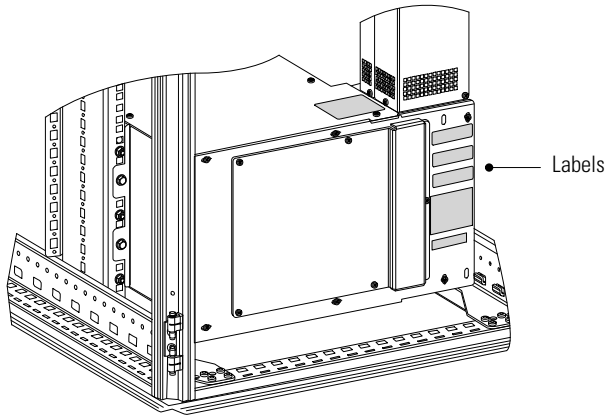

Figure 9. Wireway Labels
- Verify that the six information labels are attached to the wireway as shown in Figure 9.